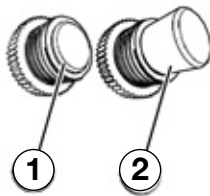

Figure 6: Breakers
3. Make sure the circuit breakers are properly set (see Figure 6).